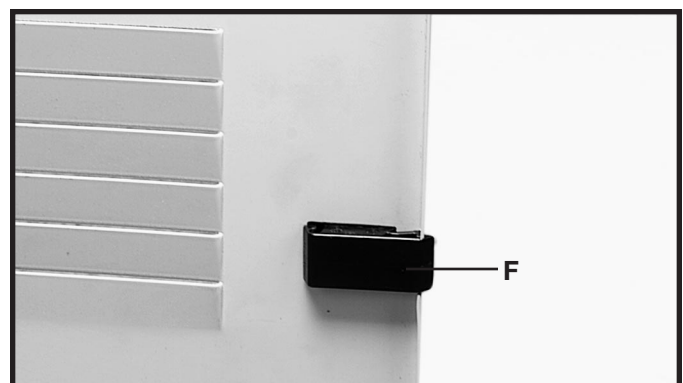

Fig. 22
12. Insert the door latch (F) Fig. 22, from the outside, through the hole in the door.